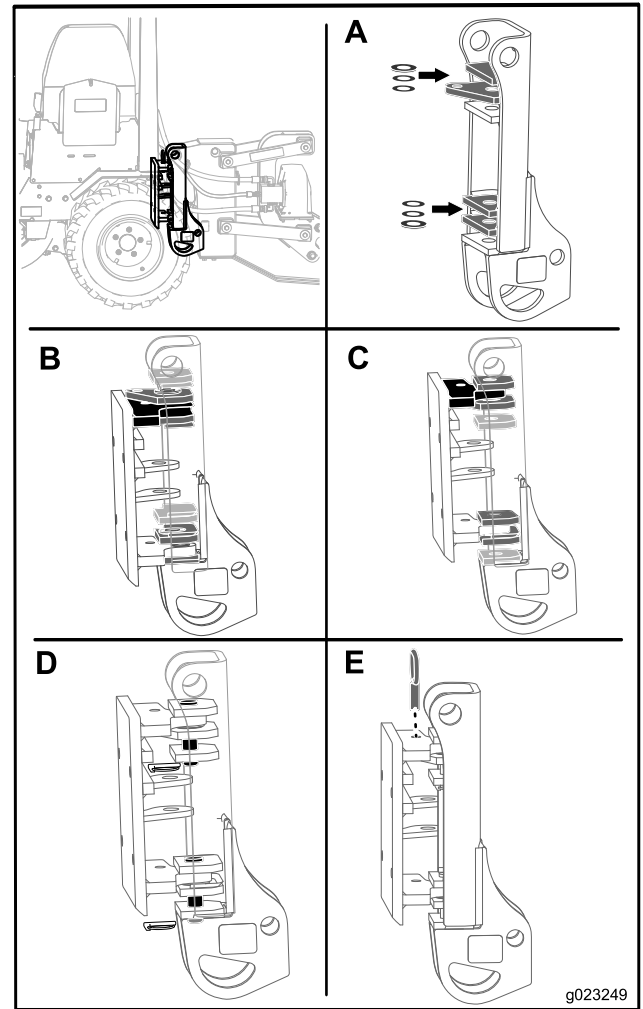

Figure 4
1. Place 1 washer (1 inch) between the first and second plates and between the fourth and fifth plates on the plow assembly as shown in Figure 4; Box A.
sixth plates on the plow assembly (Figure 4; Box B).
- If the 26 inch tires are installed, place the pivot assembly onto the attachment plate so that the top ledge on the attachment plate is between the first and second plates on the plow assembly and the bottom ledge of the attachment plate is between the fourth and fifth plates on the plow assembly (Figure 4; Box C).
4. Place the 2 plow pivot pins through the hole on the plates on the plow assembly, and secure them using the 2 lock pins (Figure 4; Box D).
5. Place the swing lock pin through the hole on the attachment plate and the hole on the second plate of the plow assembly (Figure 4; Box E).